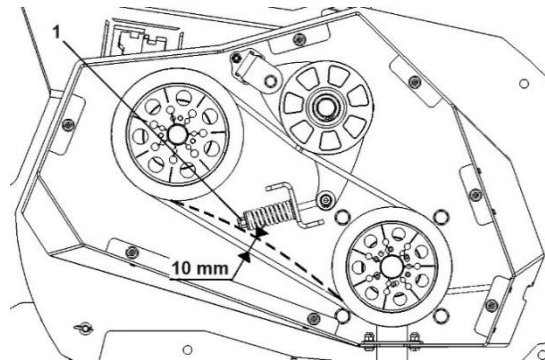

Figure 15. Belt drive tension: 1 – tensioning nut
- unscrew the fastening bolts (1) of the belt drive guard,
- remove the belt drive guard (2),
- check the belt tension (when the V-belt is pressed with a finger at the midpoint between the pulleys with a force of 75 N, the belt should deflect by approx. 10 mm) (Fig. 15),
- if it is necessary to increase the belt tension, turn the tensioning nut (Fig. 15, item 1) the required number of turns until the required belt tension is achieved,
- loosen the tensioning nut (Fig. 15, item 1) so that the belts can be removed,